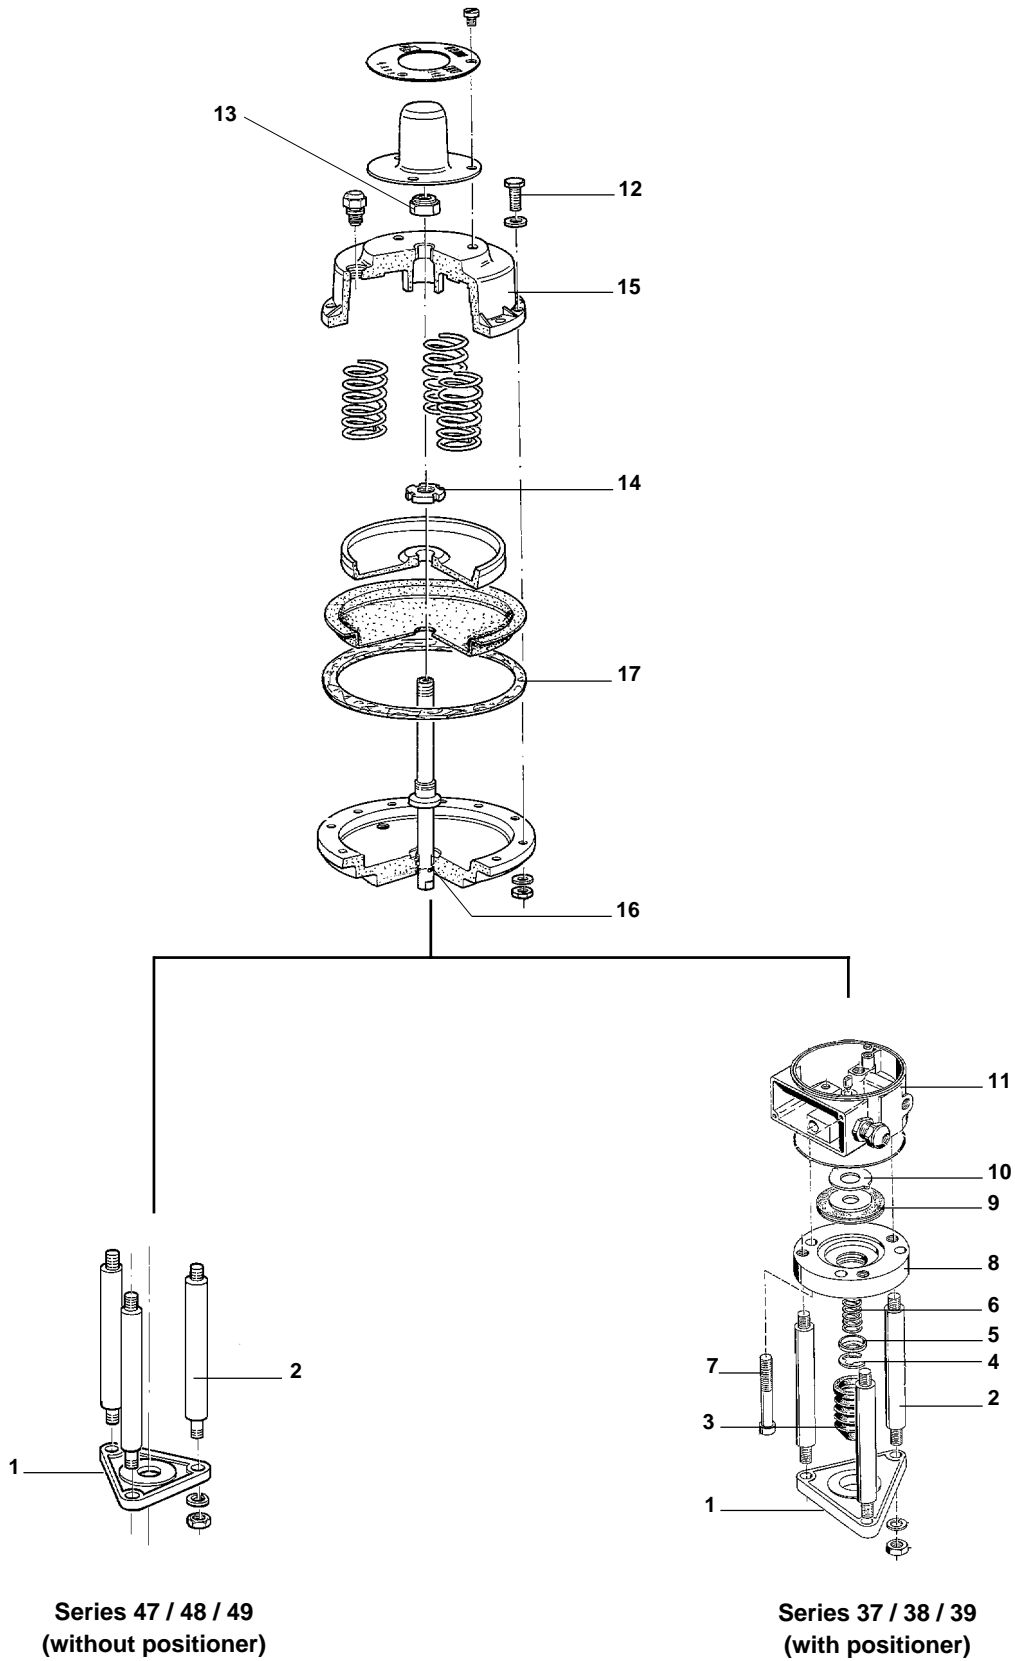

Fig. 9
(refer to figs. 9 and 11)
7.1.2 Actuators without adjustable positioner spring (see Fig. 9)
(refer to figs. 9 to 13)
- 7.2.11 Actuator without adjustable positioner spring** (see Fig 9)